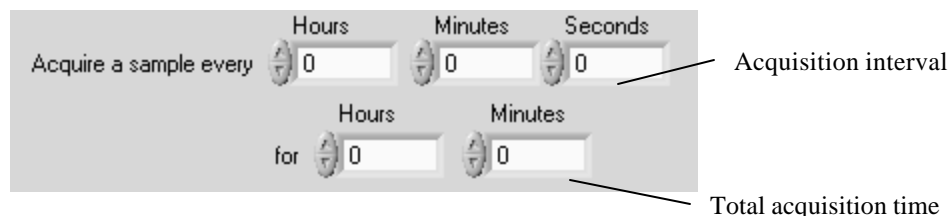

Figure 3.8: Selection of parameters for a timed acquisition
- 3.7.3 Set the acquisition interval and total acquisition time (see Figure 3.8).